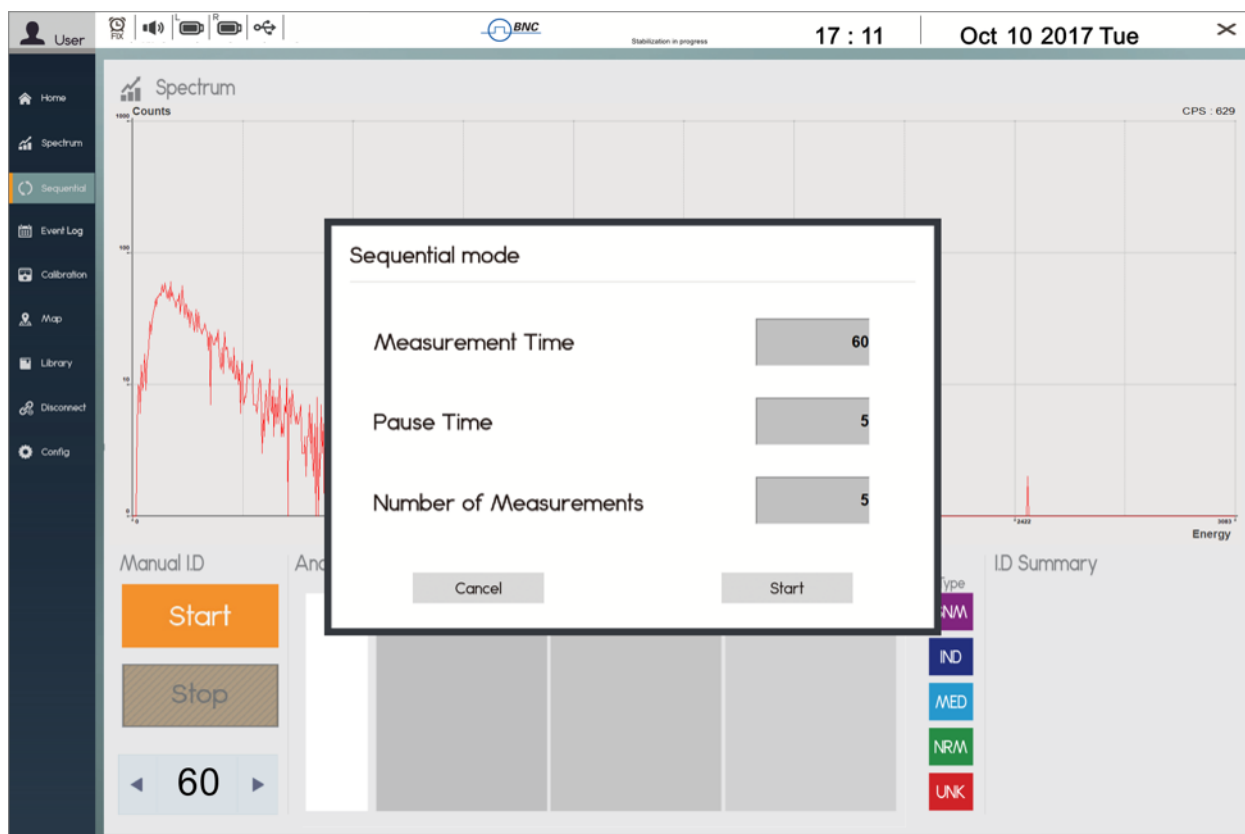

Figure 4.12. Sequential Screen Description
1. Select “Sequential” from the menu and the “Sequential mode” configuration pop-up window appears as shown in figure 4.12.